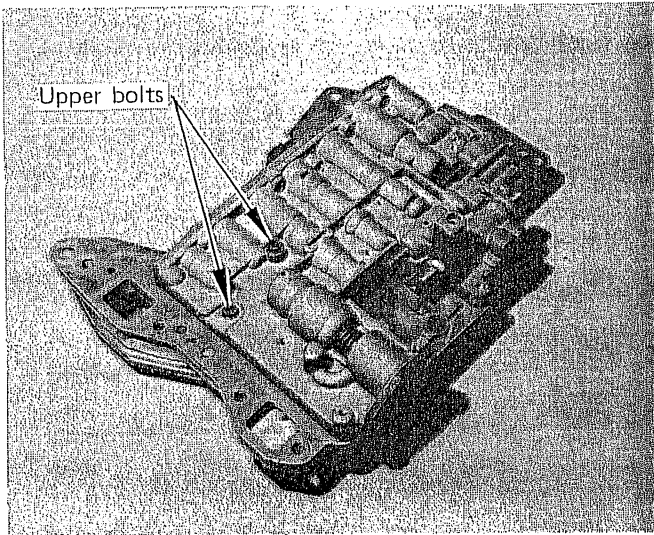

FIGURE 3
STEP 5. Lay the valve body on the bench with the filter side down. Remove the two upper bolts. (See Fig. 3) Note: One is short and one is long. Set them aside.
STEP 20. Turn valve body over and install one short and one long bolt in position (See Fig. 3), tighten 30 to 45-in.lbs. The valve body is now complete.